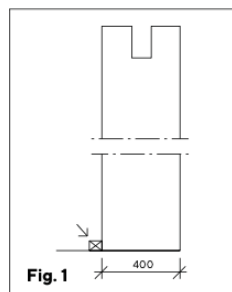

Fig. 1
- 2) Set a layout/stop board: fasten a straight 2x4 (or similar) about 16 in. back from the slab edge to guide element placement (see Fig. 1).